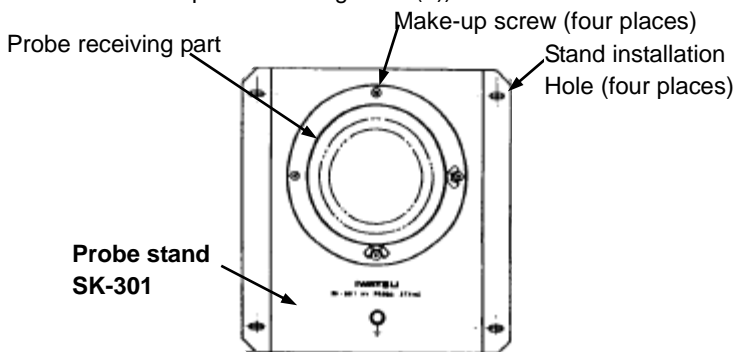

Figure 4(b) Probe stand SK-301 and Probe receiving part
- 6) The position in which the stand is installed is chosen, and the stand installation hole is fixed with the screw etc. (Refer to four places and Figures 4(b))